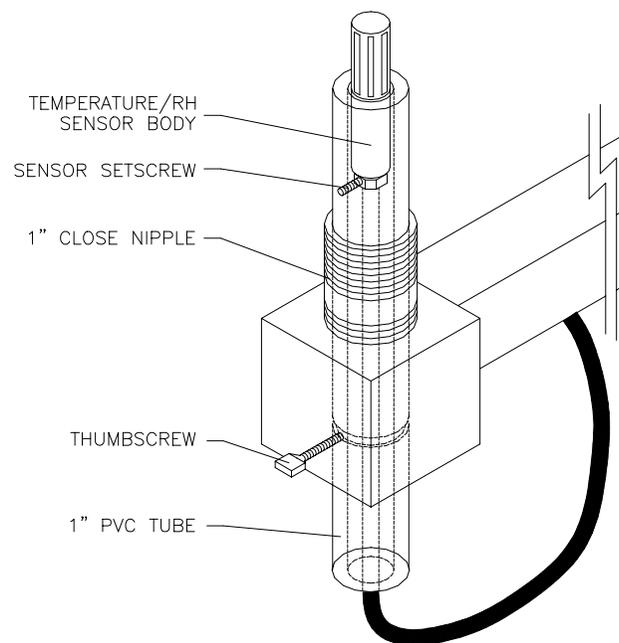

Figure 10-25 T/RH Sensor Removal
5. Loosen the thumb screw at the top of the arm and remove the sensor mounting assembly (1" gray PVC tube) from the arm (see Figure 10-25).
17. As shown in Figure 10-25, position the T/RH probe inside the mounting assembly such that the metallic base of the probe body aligns with the sensor setscrew (a port hole drilled in the PVC tube opposite the setscrew provides the means to visually align the probe in the PVC tube). Tighten the setscrew to secure the sensor.